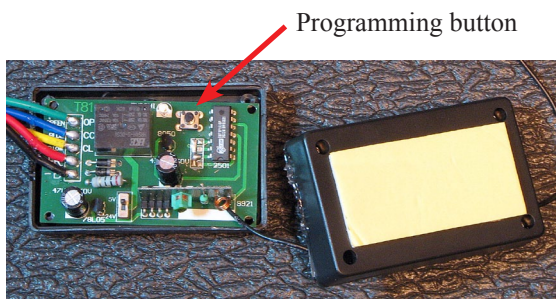
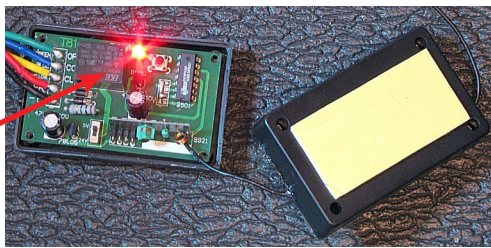

Fig. 2
Fig. 4
6) Press and Hold the programming button shown in Fig. 2. In approximately 6 seconds the LED with light red (Fig. 4).
Apply power to the RES. Press and Hold the programming button (Fig. 2) for approximately 10 seconds. The RES's LED will flash rapidly three times to confirm that all codes have been erased.